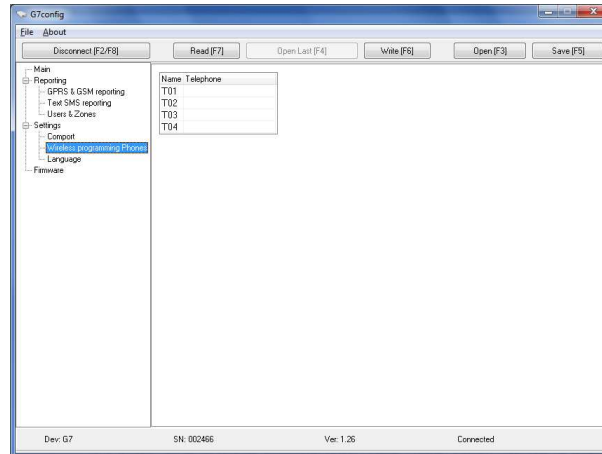

Figure 12 View of window *Wireless programming Phones*
- 7.1.10 Sending a specified form SMS message from a phone, which number is in this list allows activation of GPRS connection between module and program *IPcom*. Fill the phonebook in the window **Settings/Wireless programming Phones** (see *Figure 12*).
- 7.4.5 Open *G7config* window **Firmware** (see *Figure 12*).